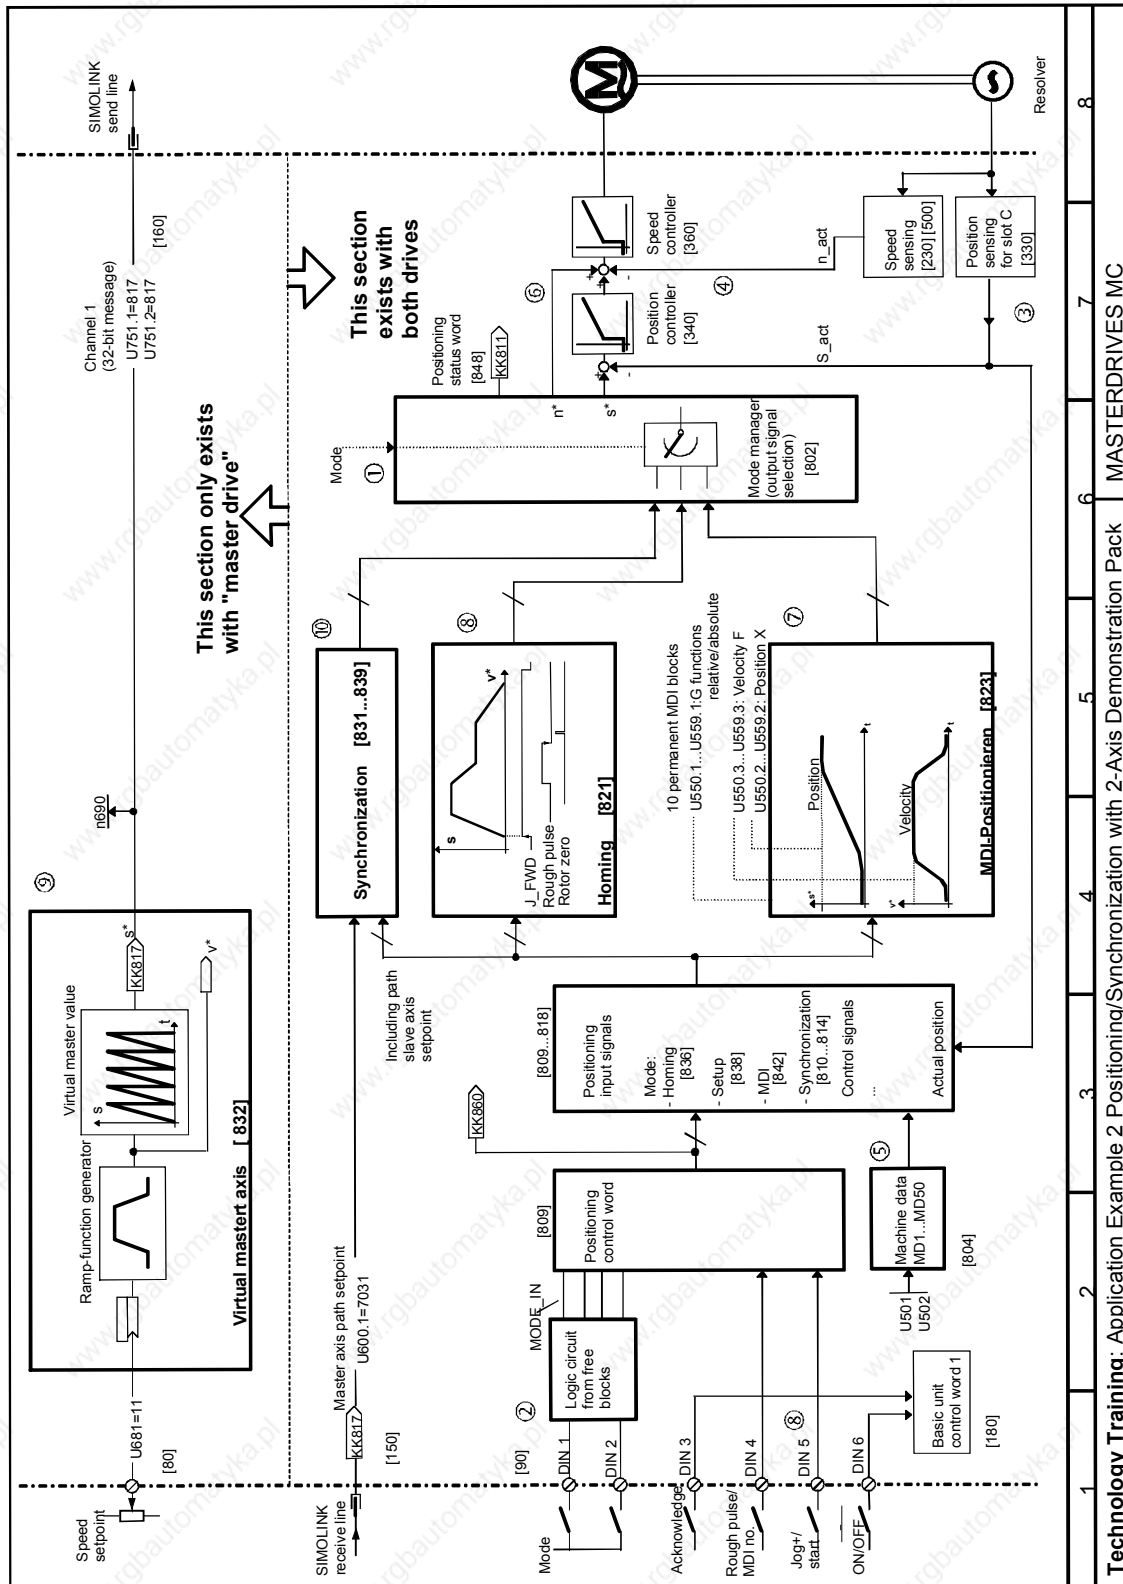

Fig. 9-45
The overview diagram in Fig. 9-45 shows how the technology functions are interconnected.
Fig. 9-45 shows the digital input assignments used in this example ②.